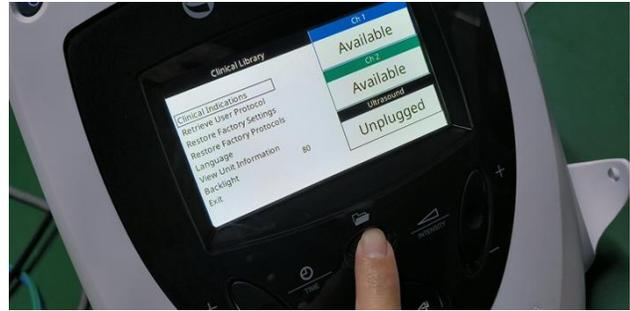

Figure 9.1
2. With the system on, press the Clinical Resources button once. **See Figure 9.1.**